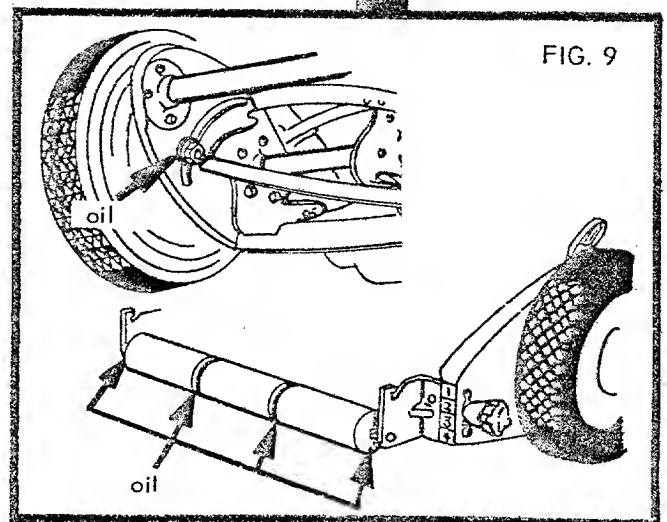

FIG. 9
5. Lightly lubricate with engine oil, points indicated on roller and between end plates and wheel dust covers. Periodic lubrication of these points will insure smooth mechanical operation. (Fig. 9).